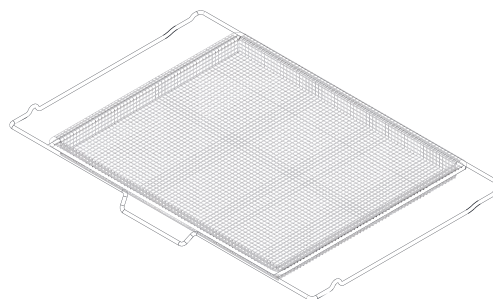

Figure 4: Air Fry Tray
- For baking cakes use the following rack positions and place bakeware as shown in Figure 4. In upper rack use position 4 (glide) or 5 (flat).